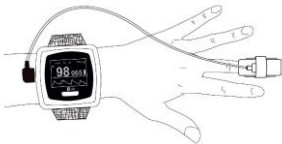

Fig. 4
A. Insert the finger into the probe as shown in Figure 4.
(The appearance of actual probe may be different with the one shown as Figure 4, please refer to the actual probe.)